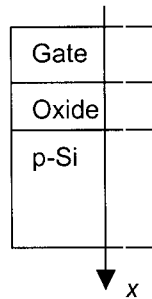

Figure 2.1: The MOS-capacitor with the definition of the direction perpendicular to the gate
- c) Sketch the energy band diagram (E_c , E_v , E_g , E_F) perpendicular to the gate (x direction in figure 2.1) through all layers of the MOS-capacitor on a p-type Si substrate when no external bias is applied. The workfunction of the metal ϕ_m is larger than the workfunction of the semiconductor ϕ_s , i.e. $\phi_m > \phi_s$. [8]